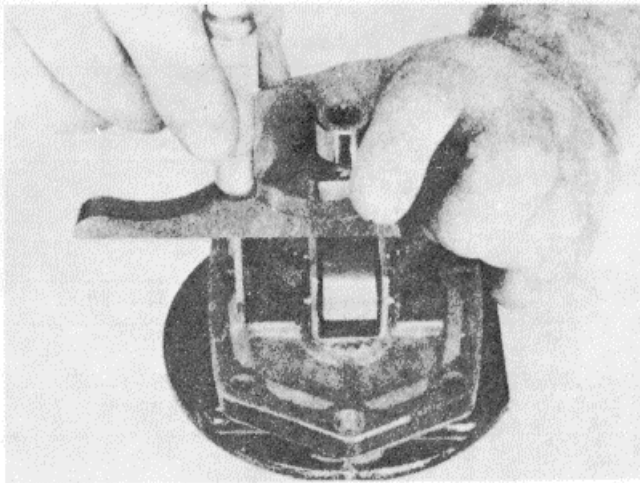

Figure 16G-51. Measuring Assist Plunger Protrusion
1. Place one leg of the depth mike base of pedestal across the carrier walls and measure down to the front cover gasket surface (no gasket), Figure 16G-51. Move the depth mike to the opposite side of the carrier and again measure to the front cover gasket surface directly across the cover from the previous measurement (do not turn carrier or cover). Average these two measurements. This procedure is necessary to eliminate any possible influence of uneven carrier wall heights.